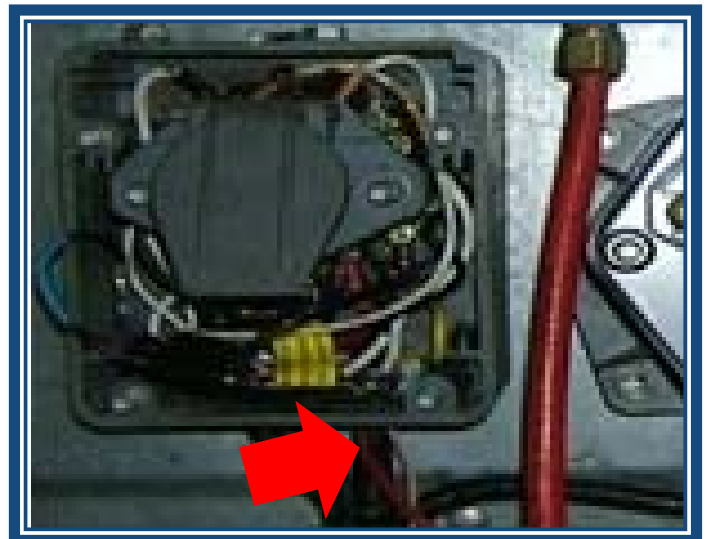

Figure 15
**Step 15:** Now route the three wires (red 10 AWG, black 10 AWG and blue 16 AWG) into the 7 way nose box. Cover with conduit and secure with a wire tie. (See Figure 15)